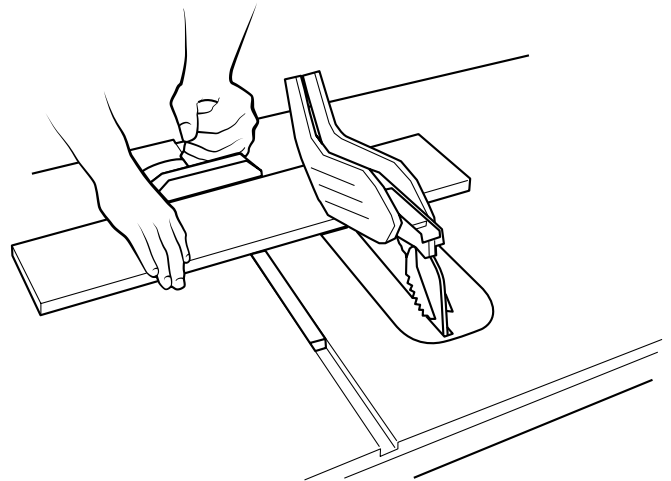

FIGURE 38
**To make a crosscut, refer to Figure 38 and follow this process:**